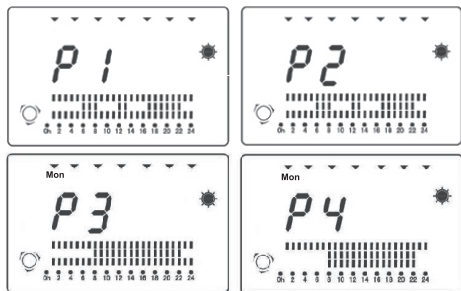

Fig. 6
2. Regardless of the set mode of operation (except for Daily programmes), press the Enter (Confirm) button to choose one of the pre-set programmes: P1, P2, P3 or P4 (fig. 6)